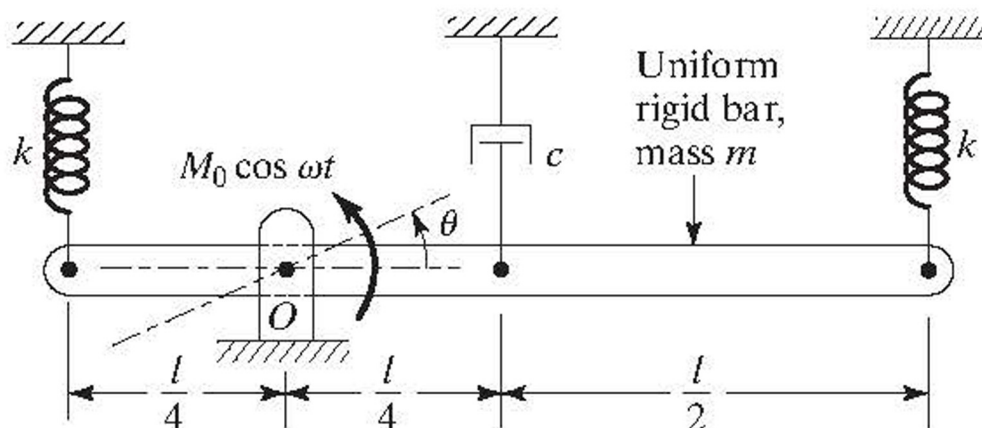

FIGURE 3.54
- 3.46** Derive the equation of motion and find the steady-state response of the system shown in Fig. 3.54 for rotational motion about the hinge  $O$  for the following data:  $k = 5000 \text{ N/m}$ ,  $l = 1 \text{ m}$ ,  $c = 1000 \text{ N-s/m}$ ,  $m = 10 \text{ kg}$ ,  $M_0 = 100 \text{ N-m}$ ,  $\omega = 1000 \text{ rpm}$ .